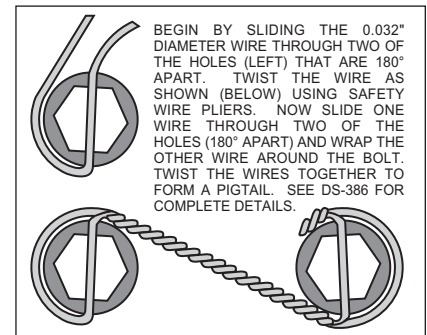

Figure 6. Safety Wire Diagram
•Slide the bracket kit assembly (1) onto the housing flange and then insert the axle assembly through the center hole of the bracket kit assembly (1). Align the bearing retainer (2) with the four holes inside the bracket assembly (1) and secure using the stock Original Equipment Manufacturer (OEM) bolts and nuts. Stock OEM hex nuts that retain the bracket kit assembly (1) and retainer (2) should be on the wheel side of the bracket. Apply red *Loctite*® 271 to the stock OEM bolt threads and torque to OEM specifications. Make sure the bracket kit assembly (1) brake pads are **FACING OUTWARD TOWARDS THE WHEEL**.
•With the larger I.D. side of the rotor (4) facing away from the hat (3), bolt rotor (4) to hat (3) through the backside of the rotor using washers (5) and bolts (6). Torque bolts (6) in an alternating sequence to 103 **in-lb**. Safety wire bolts (6) using standard 0.032 inch diameter stainless steel safety wire as shown in Figure 6. Please refer to Wilwood's data sheet DS-386 (available at www.wilwood.org/ds386.pdf) for complete safety wire installation instructions.
•Align the correct hole pattern in the hat (3) with the stud pattern on the axle flange. **NOTE:** Some OEM and aftermarket axles come with stud sizes larger than 0.50" diameter. Verify stud size and have a qualified machine shop drill the hats to the correct size, if necessary. Slide the hat/rotor assembly (3 and 4) over the wheel studs covering the bracket kit assembly (1) and against the axle flange face. Check to be sure the hat seats squarely against the hub. Install a couple of lug nuts (finger tighten) to keep the rotor/hat assembly in place while continuing with the installation.